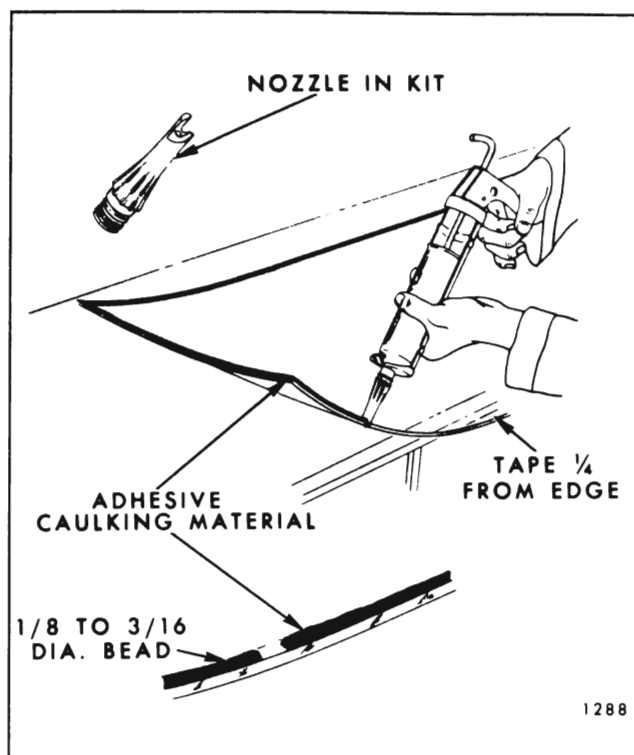

Fig. 4-2—Adhesive Glass Installation Short Method
3. If short method installation is required, the nozzle furnished with the kit is pre-cut to dispense the proper size bead of caulking material (Fig. 4-2).